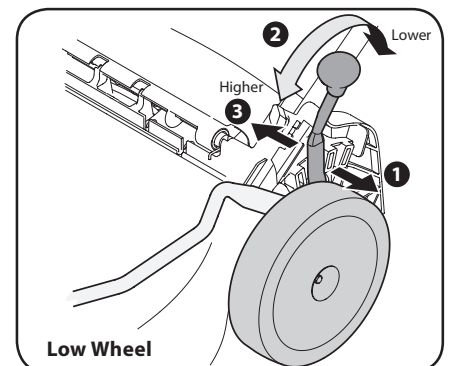
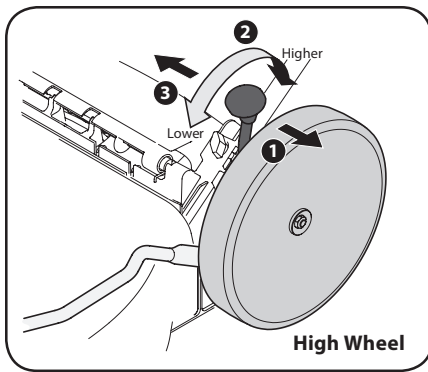

Figure 2-12
Figure 2-13
2. Slide lever to desired position for a change in cutting height. Refer to Figure 2-12 for low wheel and Figure 2-13 for high wheel.